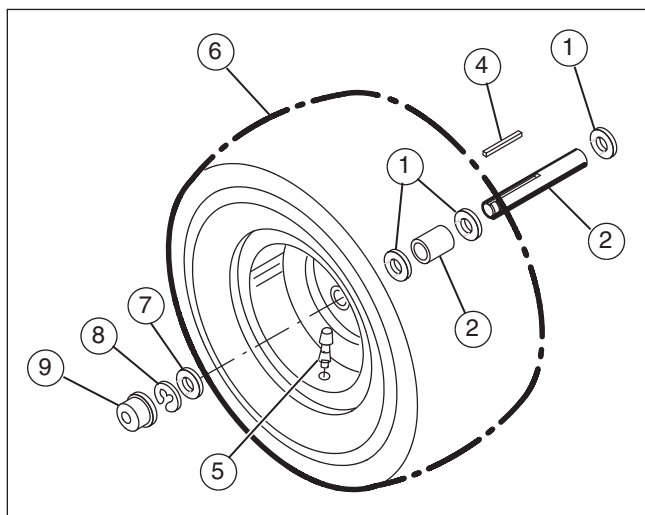

Figure 37
1. Install the washers (1) and spacer (2) onto the axle (3) (see **Figure 37**).
2. Mount the square key (4) in the key slot.